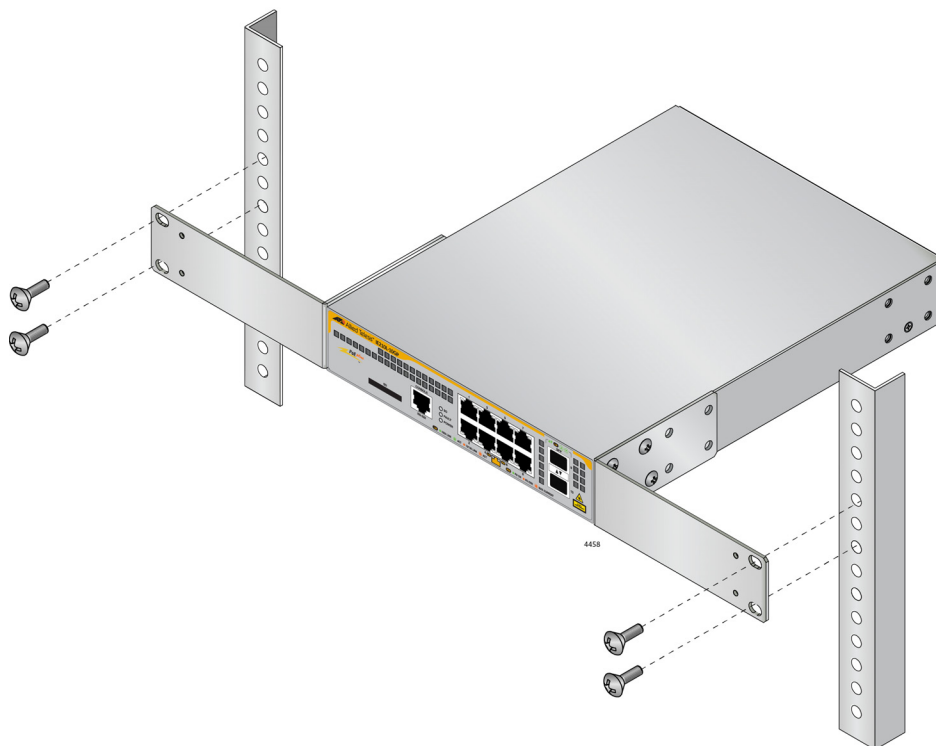

Figure 13. Mount AT-IE210L-10GP Switch in Equipment Rack
2. Mount the AT-IE210L-10GP switch in a 19-inch equipment rack using four equipment rack screws (not supplied). Refer to Figure 13.